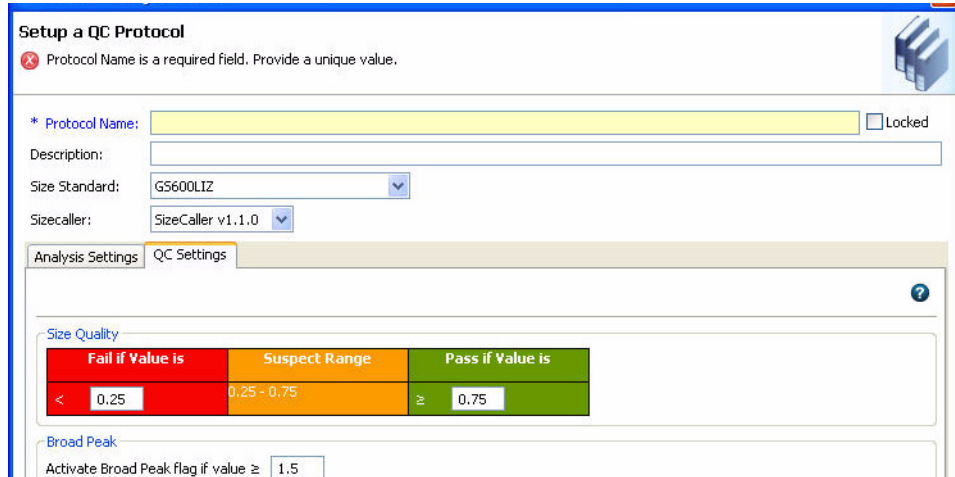

Figure 29 Create New QC Protocol – Analysis Settings
4. Click **QC Settings**. In the QC Settings tab of the Create New QC Protocol dialog box (Figure 29 on page 188), specify settings (Table 17 on page 188).